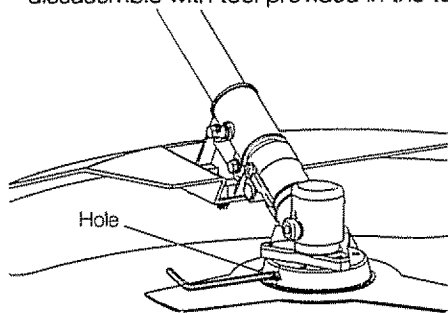

Fig.39
2. Insert an allen key into the hole in the shroud to lock the shaft. Remove the left-hand thread nut to disassemble with tool provided in the tool kit (Fig. 39).